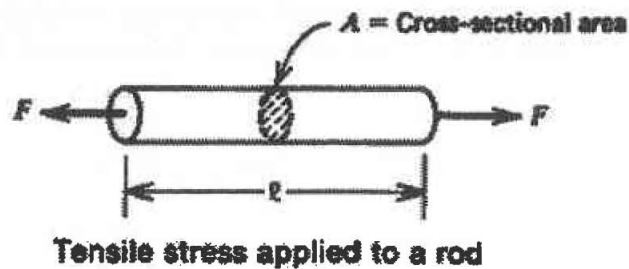

Figure 3 (Rajah 3)
- (c) (i) Based on Figure 3, proof that the change in resistance, in a strain sensor is $\Delta R \approx 2R_0 \frac{\Delta l}{l_0}$